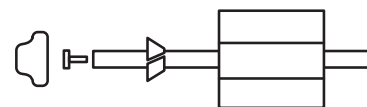

Figure 12
**NOTE:** Once the tubing has been pushed into the nut it cannot be pulled out. The nut will need to be removed. See the below Figure 12 for correct assembly.